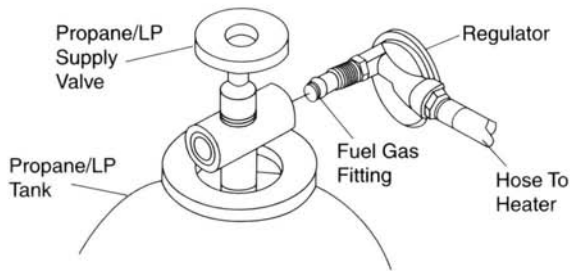

Figure 1
2. Connect fuel gas fitting hose/regulator assembly to propane LP tank(s). Turn fuel fitting counter-clockwise into threads on tank. Tighten firmly using a wrench. **IMPORTANT:** Position regulator so that hose leaving the regulator is in a horizontal position (see Figure 1)